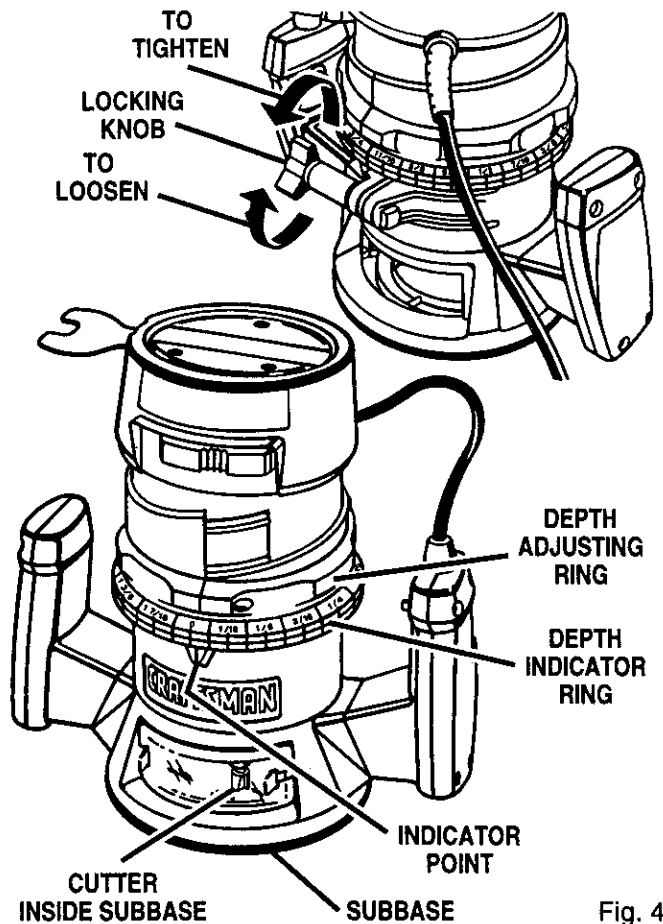

Fig. 4
See Figures 4, 5, and 6.
- Place your router on a flat surface, loosen locking knob, and turn depth adjusting ring until cutter is inside subbase. See Figure 4.